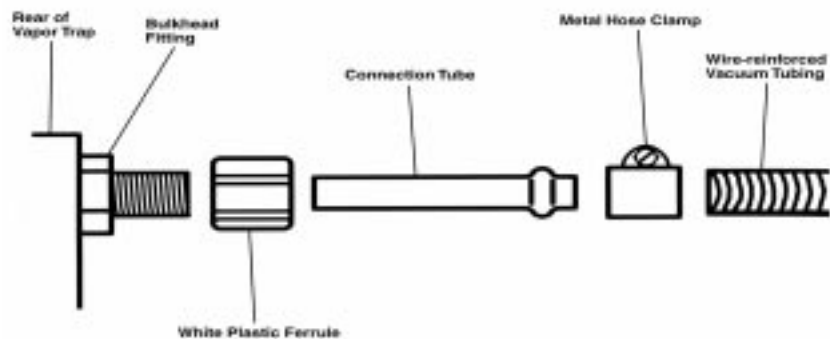

Fig. 4. Exploded view of tubing connection.
3. After inserting the connection tubes into the ends of the vacuum tubing pieces, as in Figure 4, connect each steel tube to the bulkhead fittings at the back of the Vapor Trap. Tighten the white plastic ferrule so that the connector tube does not slide in or out.